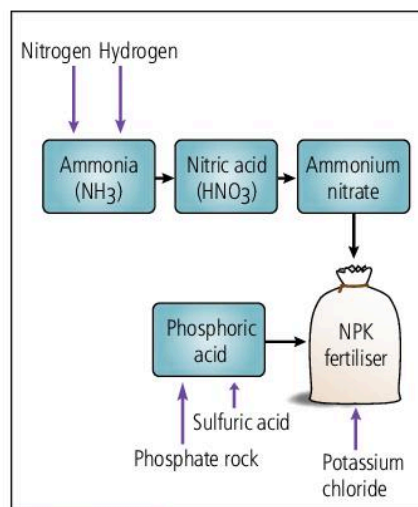

Figure 16.3.2 Flow chart for making an NPK fertiliser
- The major use of nitrogen is to make fertilisers. Fertilisers are spread on the soil by farmers to increase the yield of their crops. Fertilisers provide some of the essential elements needed for plant growth: nitrogen (N), phosphorus (P) and potassium (K). So these fertilisers are called NPK fertilisers. When nitrogen from the air combines with hydrogen at 450 °C and 200 atmospheres pressure, in the presence of a catalyst, ammonia, NH_3 , is formed. The ammonia is then reacted with nitric acid and phosphates are added to make NPK fertilisers (Figure 16.3.2).